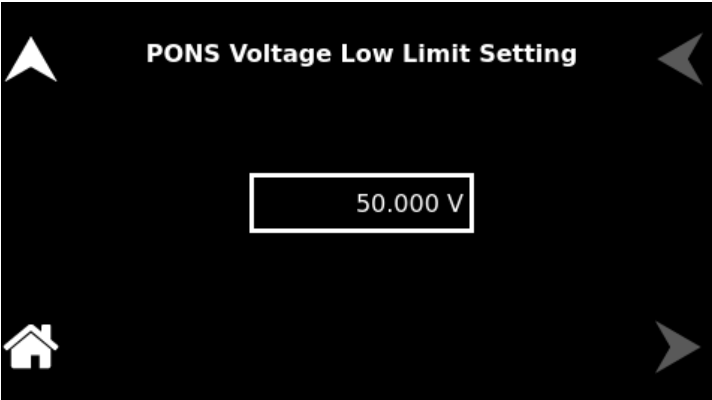

Figure 10-132. Voltage Low Limit Setting
**PONS Voltage Low Limit** Users can set the voltage low limit value, and it regulates the output upon reaching the PONS Voltage Low Limit. Refer to Figure 10-132.